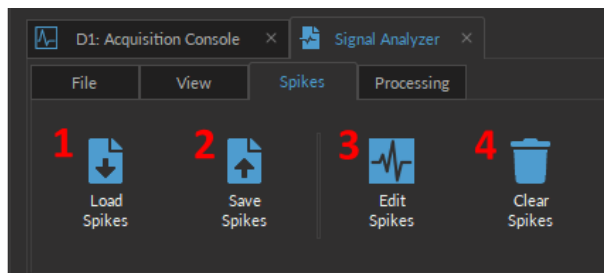

Figure 14.10: Spikes Tab
The **Spikes** tab (Fig. 14.10) is used to save, load, and edit data files containing process data within the module.
1. The **Load Spikes** button (Fig. 14.10, 1) will open a file selector window where the user can pick which `_Spikes#.doric` data set to import into the module.
2. The **Save Spikes** button (Fig. 14.10, 2) will automatically output a new file containing the processed data in the same folder as the raw data. This new file will share the name of the raw data file, plus a `_Spikes` between the old name and the `.doric`. If a spike file of that name already exists, an additional Spikes file is generated as `_Spikes#.doric`, instead of overriding the data.
3. The **Edit Spikes** button (Fig. 14.10, 3) allows users to update the spikes information in the current `_Spikes.doric` file without generating a new Spikes file. Instead, the new and old processed data are combined into a folder of the same name.
4. The **Clear Spikes** button (Fig. 14.10, 4) will erase the Spike file currently loaded in the module.